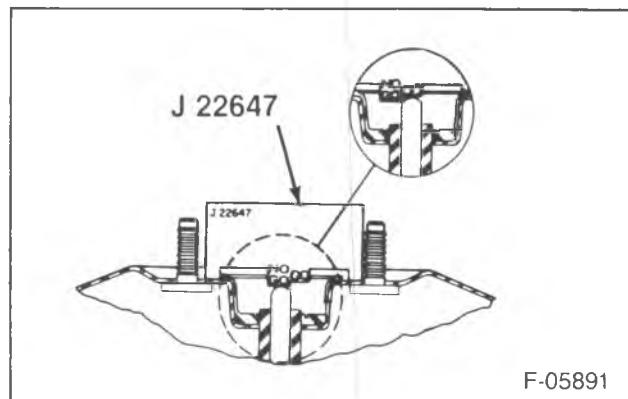

Figure 24—Gaging the Piston Rod
- Front housing seal (5).
- Silencer (2) and boot (1).
- Gage the piston rod using J 22647 (figure 24). If not within limits, obtain a service adjustable piston rod.